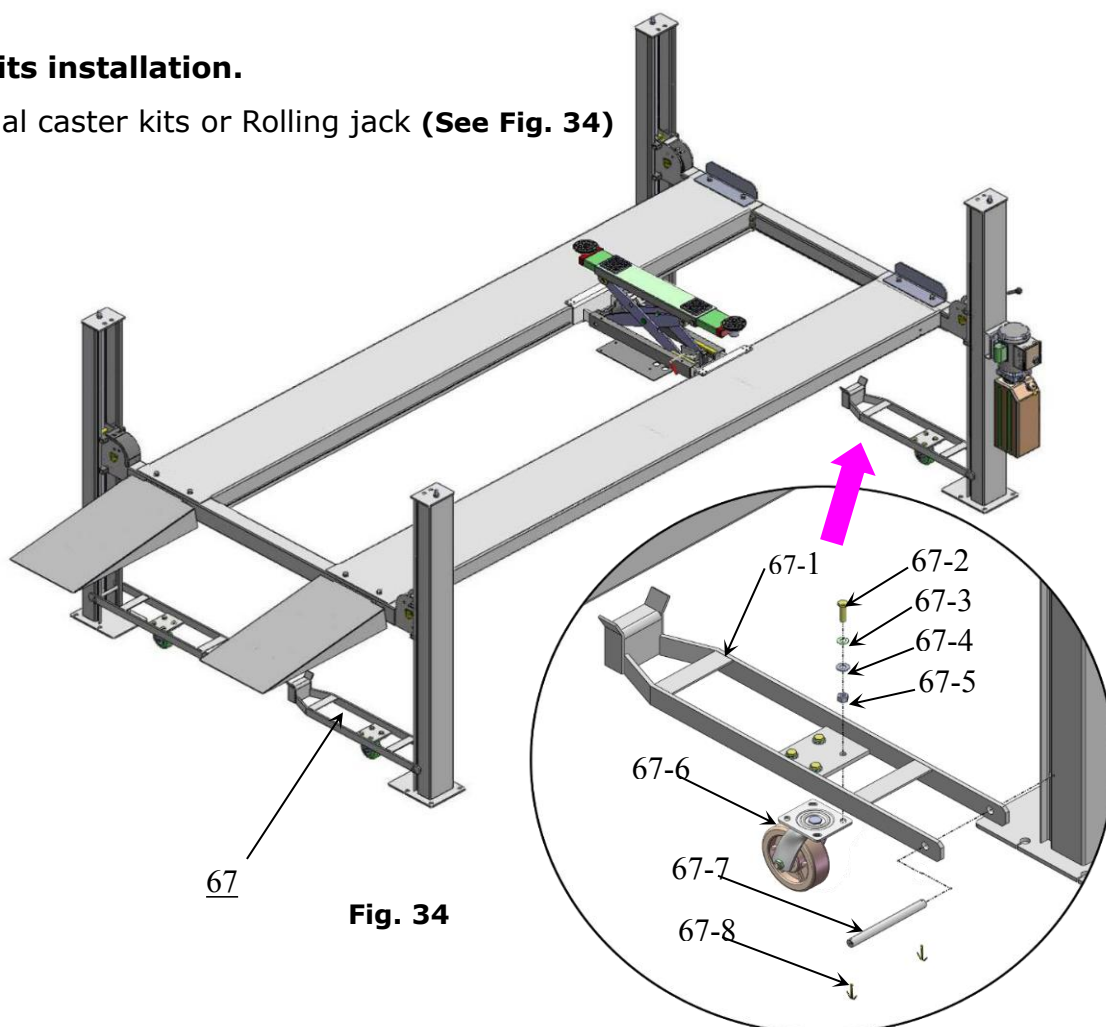

Fig. 34
1. Install optional caster kits or Rolling jack (See Fig. 34)